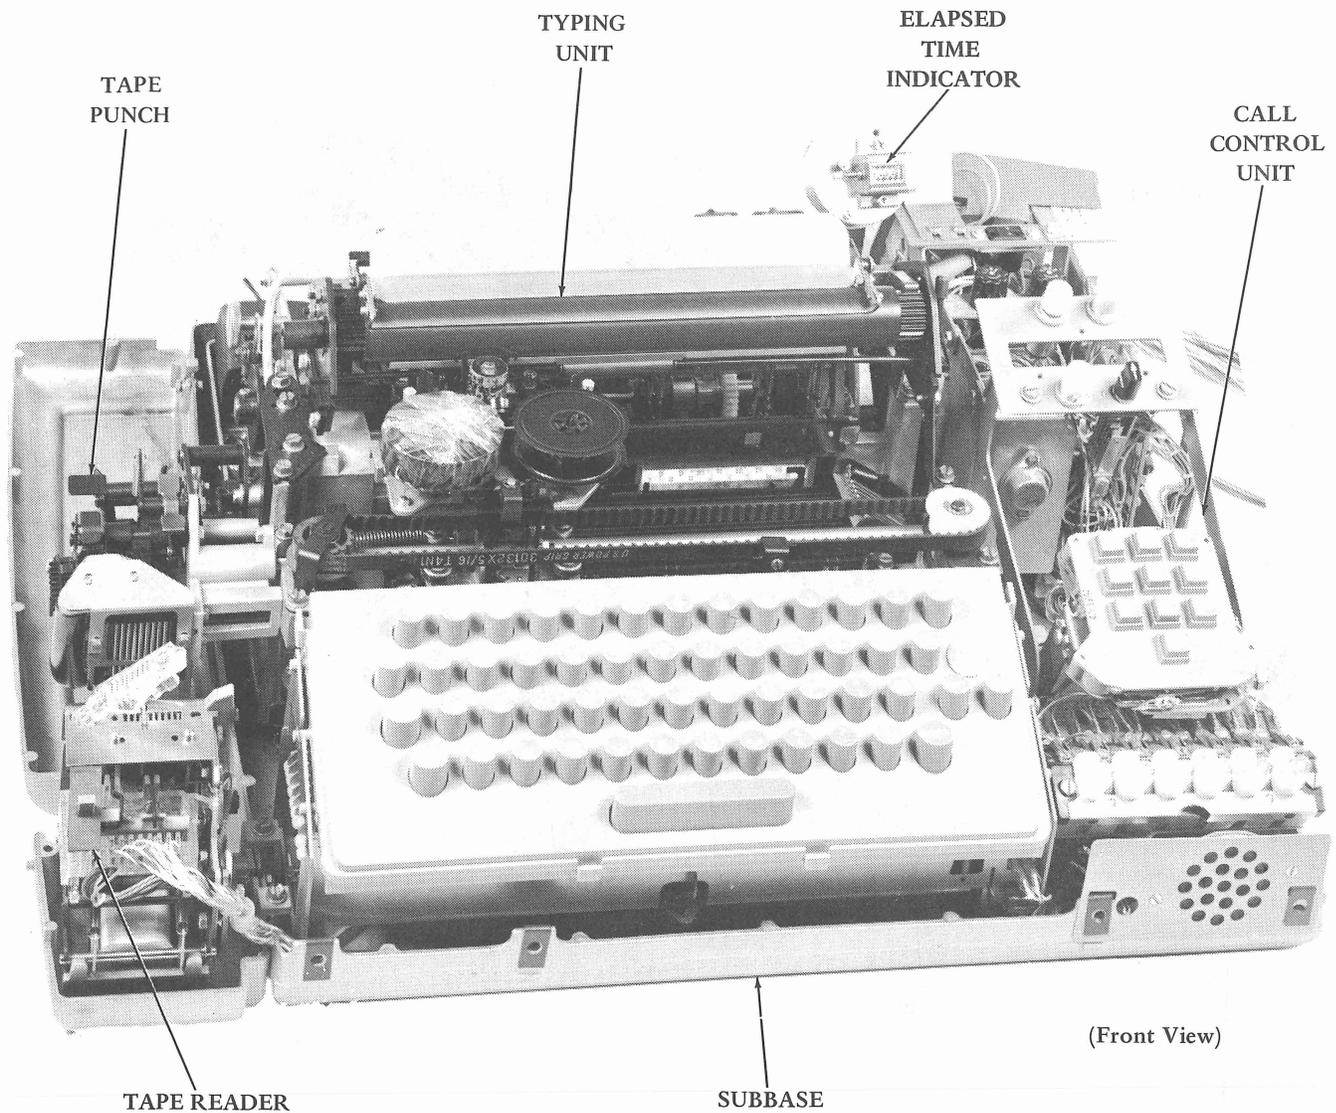

Figure 4 - Automatic Send-Receive (ASR) Teletypewriter Set (Without Cover and Stand)
to gain access to the typing unit for changing ribbon or installing paper or forms. A window permits viewing the copy and provides a cutting-edge for tearing the paper or forms. Depressions at the rear of the cover hold the paper roll spindle. Mounting slots are provided for copyholder. A nameplate is mounted at the front. All of the major components are mounted on the subbase (Figure 4).
3.17 The tape reader (Figure 4) is the message sending component. The reader senses perforated tape code holes and transforms them into electrical parallel output signals.
3.19 The tape punch (Figure 4) is the message tape preparing component. The punch receives intelligence through a direct mechanical linkage to the typing unit. The code is punched and recorded in 1 inch wide paper tape.